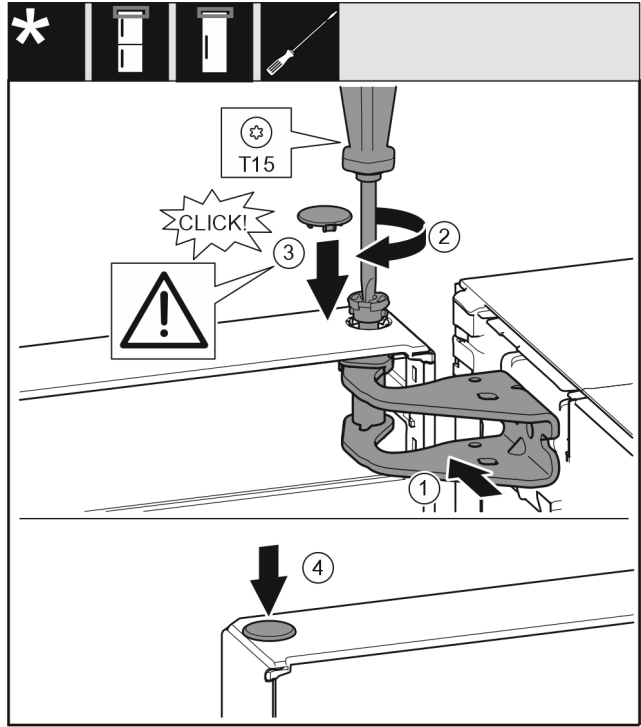

Fig. 19
- Align the top door with the opening in the swap bearing block Fig. 19 (1).
- Insert the bolt Fig. 19 (2) and use screwdriver to tighten it.
- Insert the cover Fig. 19 (3).
- Check that the cover Fig. 19 (3) is resting on the door.
- Insert the cover Fig. 19 (4).